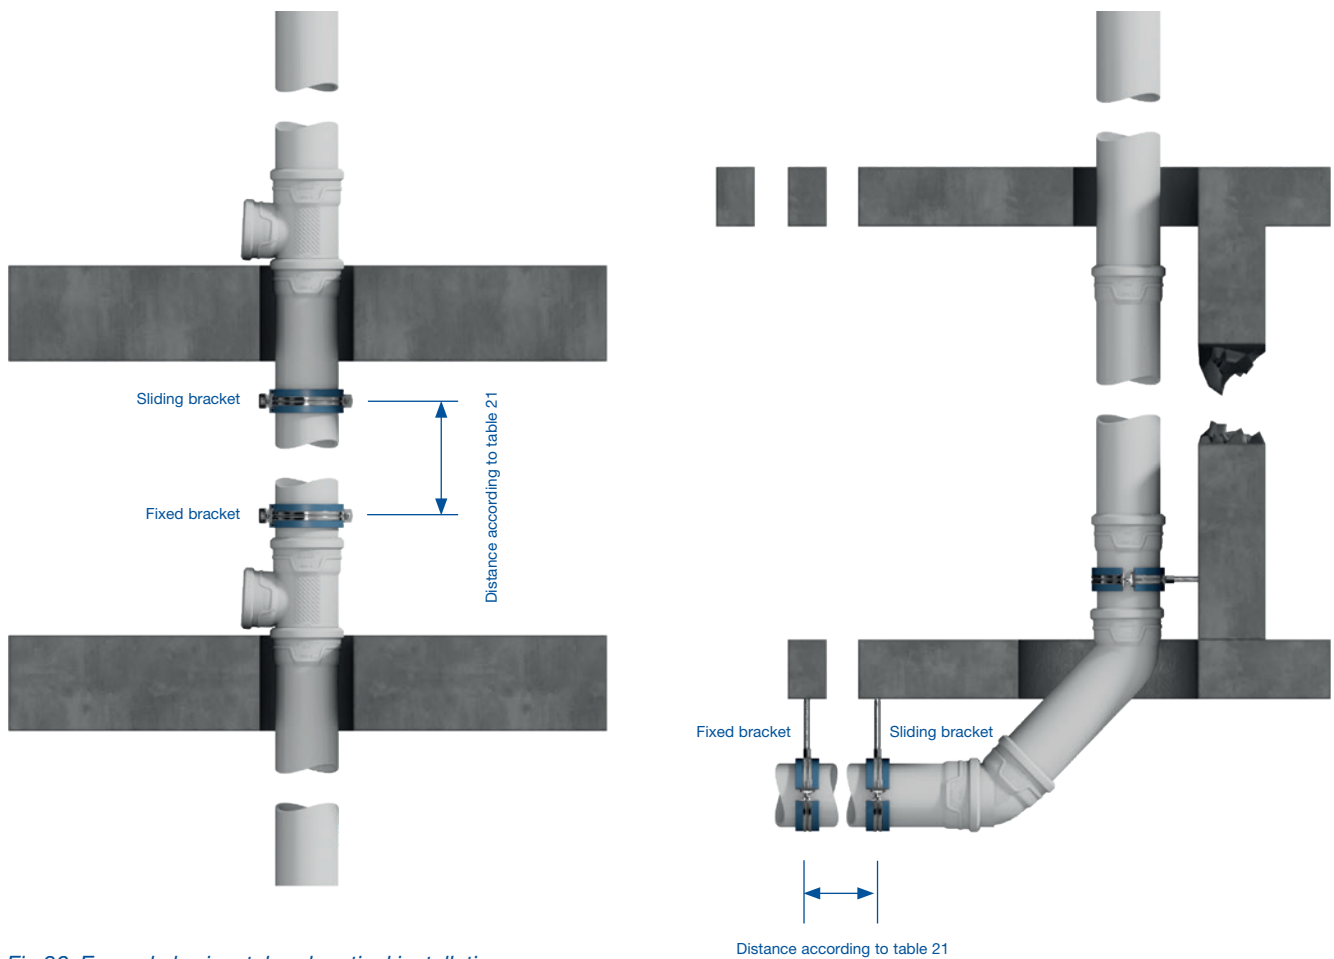

Fig 36: Example horizontal and vertical installation.
- ⤵ In multiple storey buildings (from 3 storeys and more) the stack pipes of 110mm must be secured by additional fixing (stack pipe support) to prevent sliding. In this case we advise using the Wavin AS+ socketed short length with a fixed bracket (see figure 36)